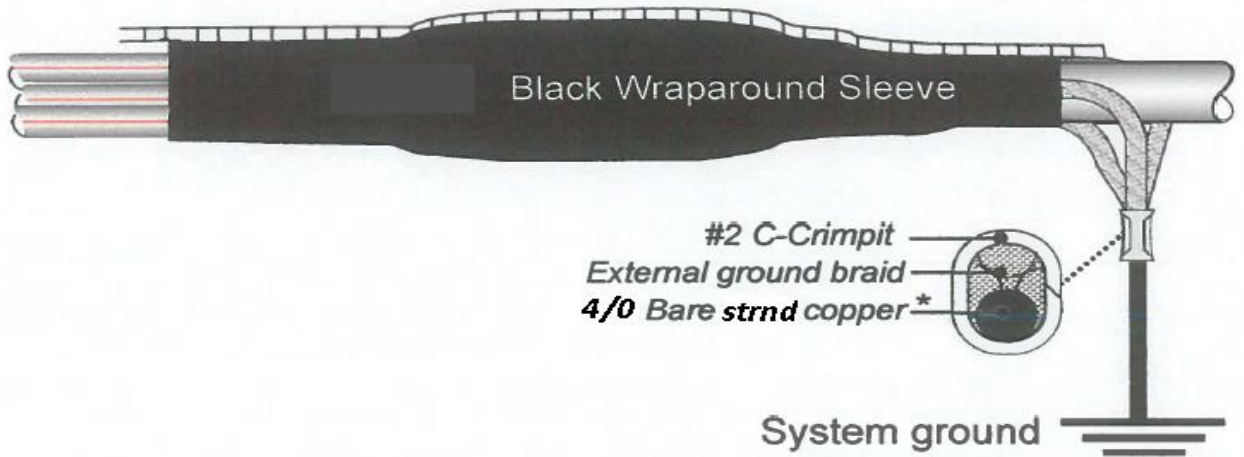

Figure 26
5. Install the wrap around jacket sleeve and heat shrink according to manufacturer's instructions. Connect the external ground braids to a 4/0 bare copper neutral bonding it to the system ground bus in the manhole. Refer to Figure 26